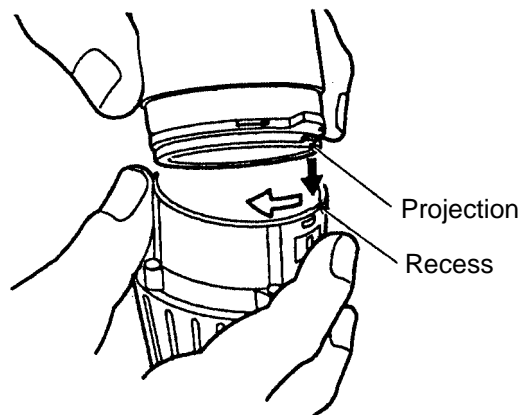

Fig. 13
(g) Install the assembly reassembled in step (1) and the assembly reassembled in step (f) together. (See Fig. 13.)